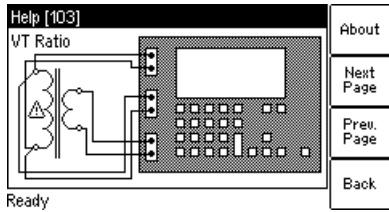

Figure 10-12: Wiring example for VT ratio measurement
1. Connect the OUTPUT sockets and input SEC of *CT Analyzer* to the primary side of the VT, and *CT Analyzer* input PRIM to the secondary winding of the VT (see Figure 10-12).